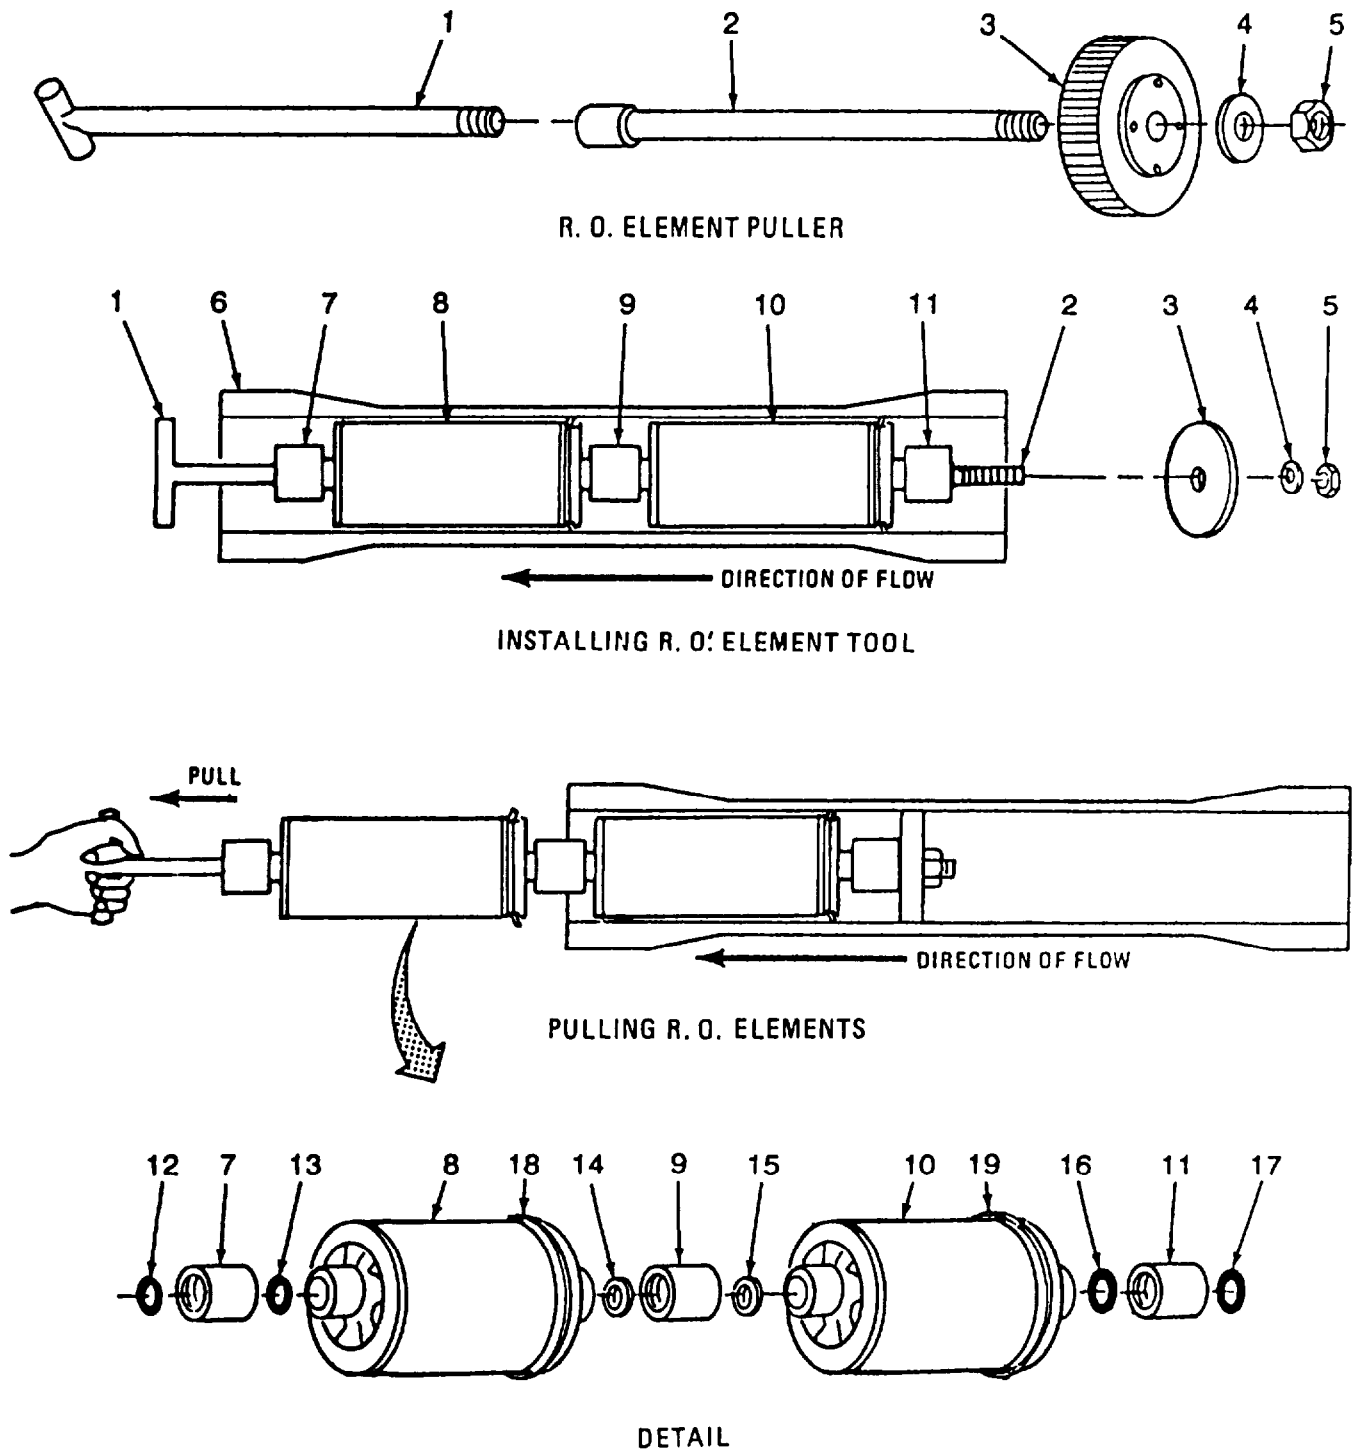

Figure 3-4. R.O. Element Removal
- (1) Screw puller rod handle (1) into puller rod (2) (Models WPES-10 and H-9518-1 refer to figure 3-3. Models WPES-20, H-9518-2, WPES-30 and H-9518-3 refer to figure 3-4).
- (2) Push element puller rod (1) and attached handle (2) through center of end connector (7), R.O. element (8), interconnector (9), R.O. element (10) and out through end connector (11).
- (3) Place element puller plate (3) on end of element puller rod (2) and secure with flat washer (4) and nut (5).
- (1) Lubricate preformed packing on end cap (13) with silicone grease from storage chest.
- (2) Align end cap (13) with alignment marks on R.O. pressure tube (14) made during removal.
- (3) Push end cap (13) onto R.O. pressure tube (14) while connecting tube on inside of end cap with end connector (8, figure 3-3 or figure 3-4).
- (4) Press end cap (13) onto R.O. pressure tube (14) until seated on studs (11). Make sure alignment marks match up.
- (5) Loosely install ten flat washers (10) and nuts (9) on studs (11).